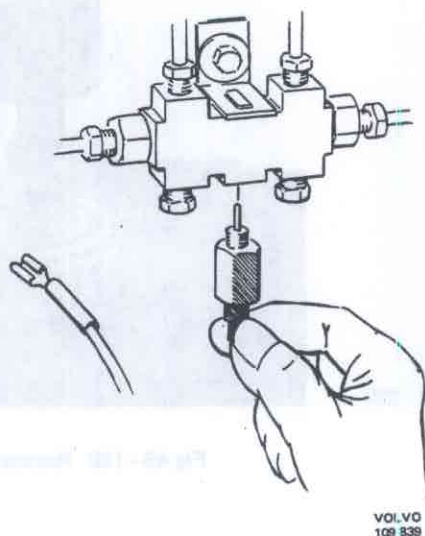

Fig. 46-132. Removing the contact
5. Bleed the wheel cylinders. The pressure difference contact should be removed before bleeding, see Fig. 46-132. If a bleeder unit is used, the working pressure should be 0.2 MPa (2 kp/cm² = 28 lbf/in²). For more detailed instructions about bleeding, see Part 5.